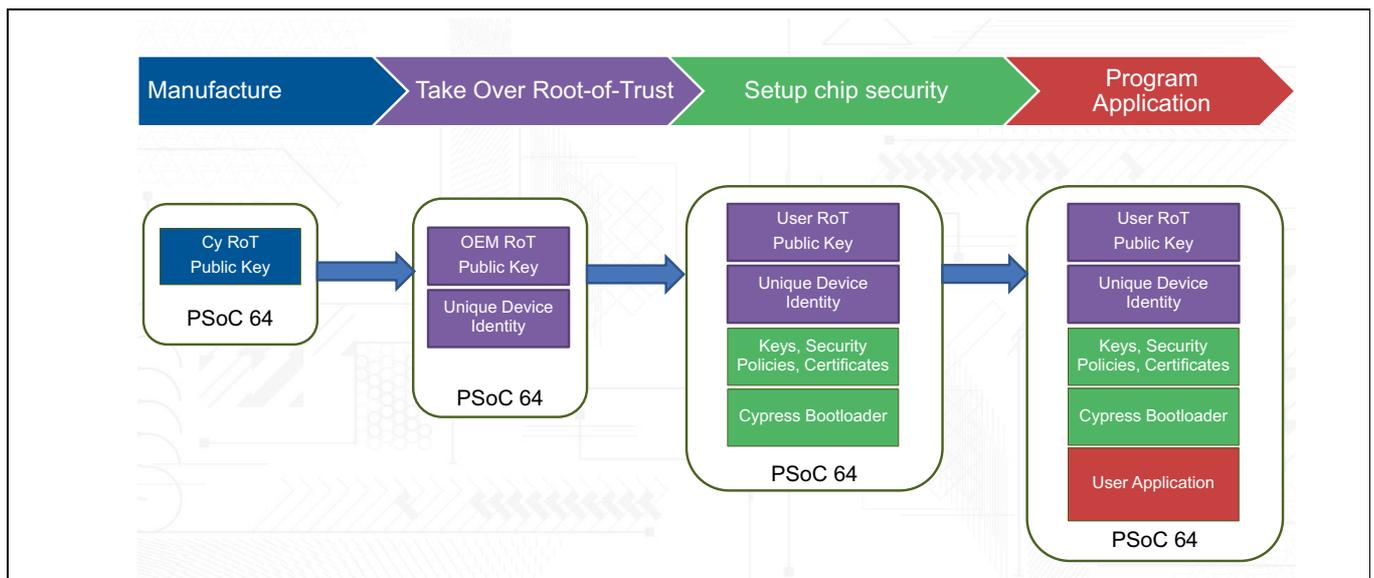

Figure 8 PSoC™ 64 MCU usage processes
- Transfer the RoT from Infineon to the user/OEM, as **Figure 8** shows